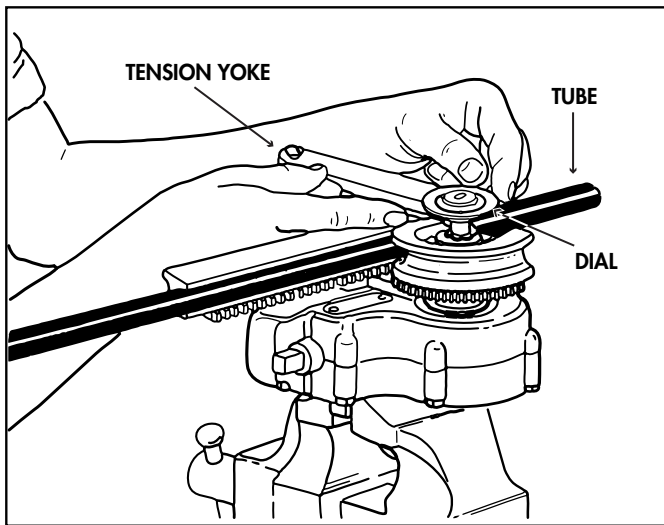

Figure 10. Engaging the Tension Yoke and Dial
i. Rotate the bend indicating plate (dial) until the slot at the center of the dial is parallel with the flat key milled on the upper end of the drive shaft. Move the tension yoke into position and press downward until the milled key on the end of the drive shaft passes through the cap slot at the center of the dial. (See figure 10.)